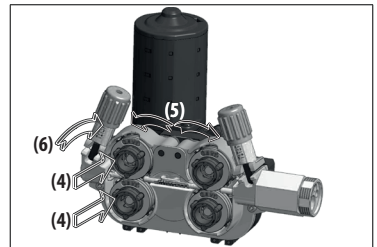

Figure 10: Wire Feed Roller Placement
- Place the roller to be used so that the cavities inside the wire feed roller overlap the protrusions on the wire feed body (4). Turn to the right or left to ensure that the locking sound is heard and that the wire feed rollers are in place. Then lower the pressure rollers (5) and lift the pressure roll lever to lock it onto the pressure roller (6). (Figure 10)